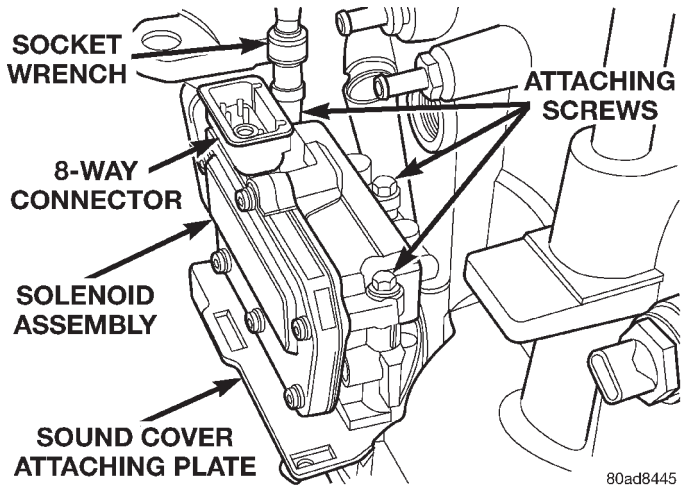

Fig. 78 Remove Solenoid Pack
- (1) Remove input and output speed sensors.
- (2) Remove transaxle solenoid pack (Fig. 78).